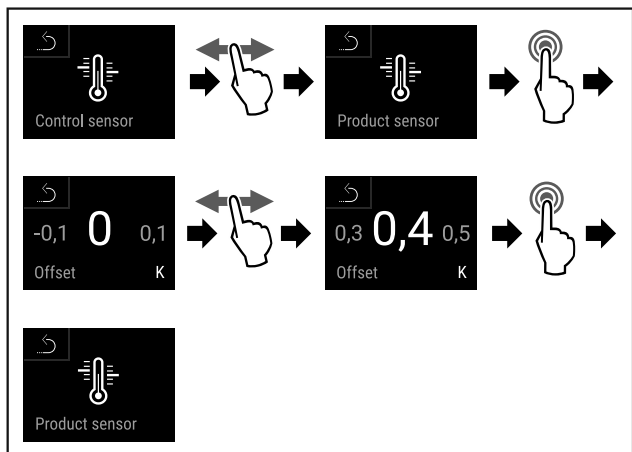

Fig. 139
- ▶ Complete steps (see Fig. 139).